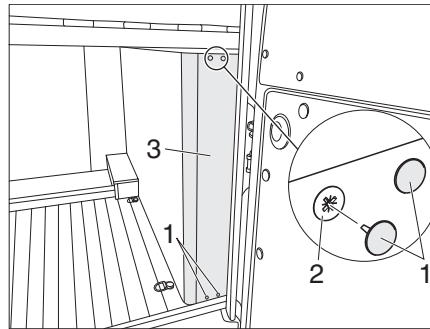

Fig. 138 Cover in the vehicle rear
The cover (Fig. 138,3) has to be removed beforehand to access the rear right-hand vehicle lamps.
- Remove the four screw covers (Fig. 138,1).
- Unscrew the four crosshead screws (Fig. 138,2).
- Remove the cover (Fig. 138,3). The vehicle lamps can be accessed now.